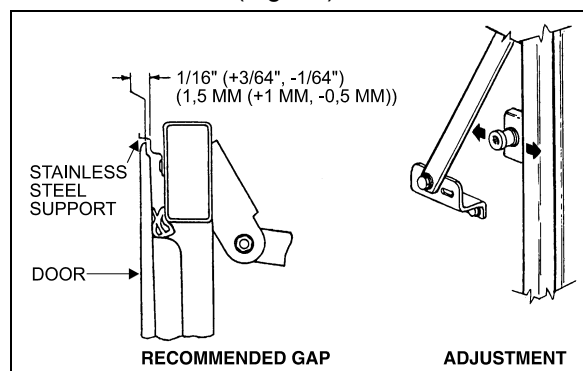

FIGURE 50: BAGGAGE COMPARTMENT DOOR 18069
6. Loosen the striker pins just enough to allow them to be moved with a hammer. Working from inside compartment and with the door closed (lower catches engaged), hit the pin washers to horizontally move the pins and consequently the door, while an outside assistant checks the fit. A gap of $\frac{1}{16}'' + \frac{3}{64}''$, $-\frac{1}{64}''$ ($1,5\text{mm} + 1\text{mm}$, $-0,5\text{mm}$) between the stainless steel support for the lateral panel and the door panel lip is recommended (Fig. 50)